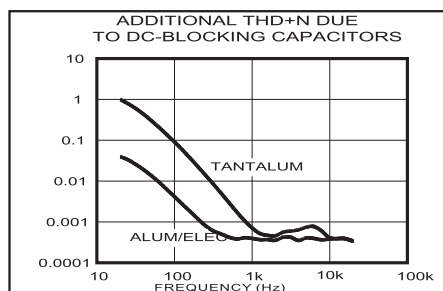

Figure 3. Distortion Contributed by DC-Blocking Capacitors
2) The voltage coefficient of the DC-blocking capacitor contributes distortion to the reproduced audio signal as the capacitance value varies as a function of the voltage change across the capacitor. At low frequencies, the reactance of the capacitor dominates at frequencies below the -3dB point and the voltage coefficient appears as frequency-dependent distortion. Figure 3 shows the THD + N introduced by two different capacitor dielectric types. Note that below 100Hz, THD + N increases rapidly. The combination of low-frequency attenuation and frequency-dependent distortion compromises audio reproduction in portable audio equipment that emphasizes low-frequency effects such as multimedia laptops, as well as MP3, CD, and DVD players. By eliminating the DC-blocking capacitors through DirectDrive technology, these capacitor-related deficiencies are eliminated. The TK0430D features a low-noise charge pump. The 320kHz switching frequency is well beyond the audio range, and thus does not interfere with the audio signals. The switch drivers feature a controlled switching